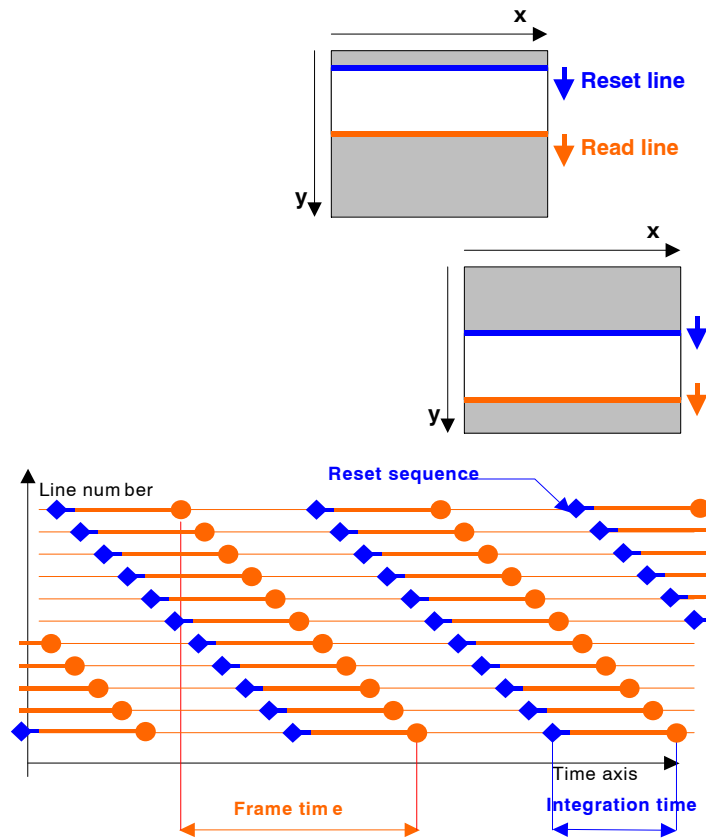

Figure 9. Electronic Shutter
The STAR250 has two Y shift registers; YL and YR. One is used to read out a line (YL) and the other is used to reset a line (YR). The integration time is equal to the time between the last reset and readout of that line, see Figure 9. The integration time is calculated as follows: